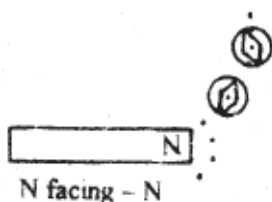
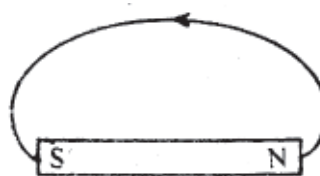

Fig. 28.5
Fig. 28.6
- (i) To determine the voltage gain A produced by the transistor with 1k ohm load resistance R_0 , connect the circuit as shown in Fig. 28.6. Keep the wiper of rheostat at zero. Keep $R_i = 4\text{ k ohm}$.
- (ii) Take a small compass box. Place it near the N-pole of the bar magnet with its pointer pointing towards the pencil dot marked near the N-pole (Fig. 28.5). Mark the dot on the other side of needle. Move the compass box to the second marked dot, again mark a dot near the far end of needle. Repeat this process till you reach the S-pole. You will get a chain of dots which can be joined by a smooth curved line, as shown in Fig. 28.6.